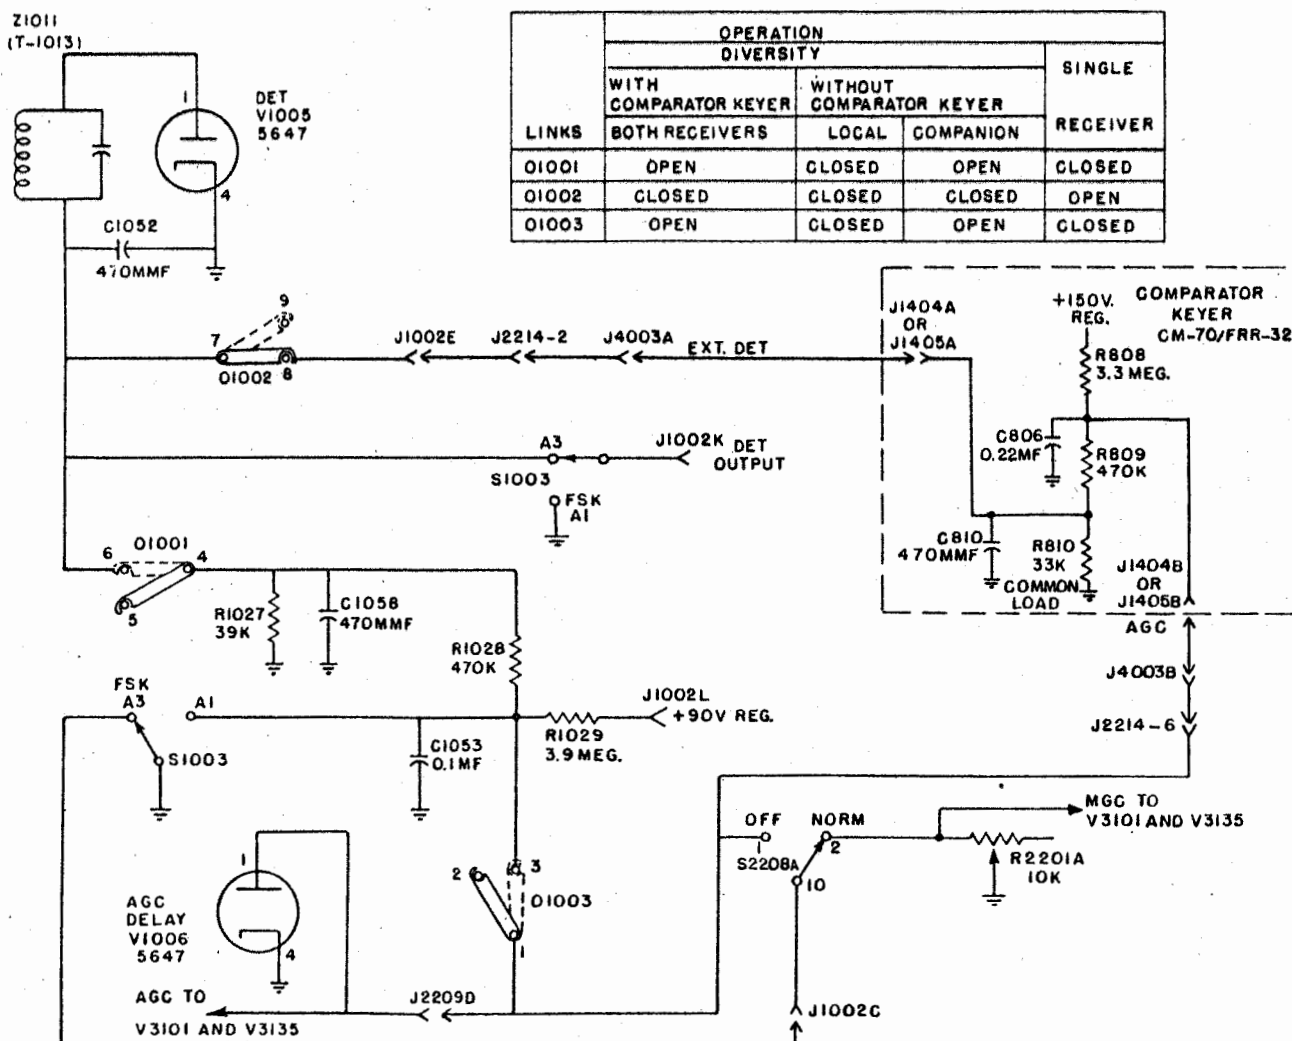

Figure 2-4. Detector and AGC, Simplified Schematic
(e) DIODE DETECTOR AND DELAYED AGC. - See figure 2-4.
3. DIVERSITY RECEPTION WITHOUT THE COMPARATOR KEYS. - Link O1001, O1002, and O1003 are provided in the diode detector and AGC circuits for applying a rectified signal voltage and an AGC voltage to the second or companion receiver. These links must be set as designated in the table in figure 2-4 for diversity operation without the Comparator Keyer. This facility is provided to maintain interchangeability among i-f amplifier sub units of other similar radio receivers as described in the preceding paragraph. When these links are so connected, the diode load resistor R1027 and the delayed AGC circuit of the local receiver are made common to the companion receiver through the DET AGC receptacle J4003 and suitable cabling. As in all diversity systems the gain of both receivers must be balanced. This is accomplished by regulating the amount of amplification on V1001 and V1002 of each receiver through adjustment of the DIVERSITY GAIN BAL control, R2202, through a recessed screwdriver adjustment on the front panel of the receiver.